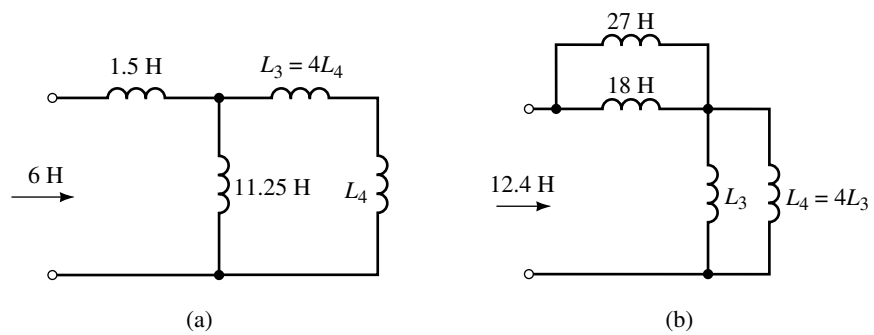

FIGURE 13-38
25. For the circuits of Figure 13-38, determine L_3 and L_4 .